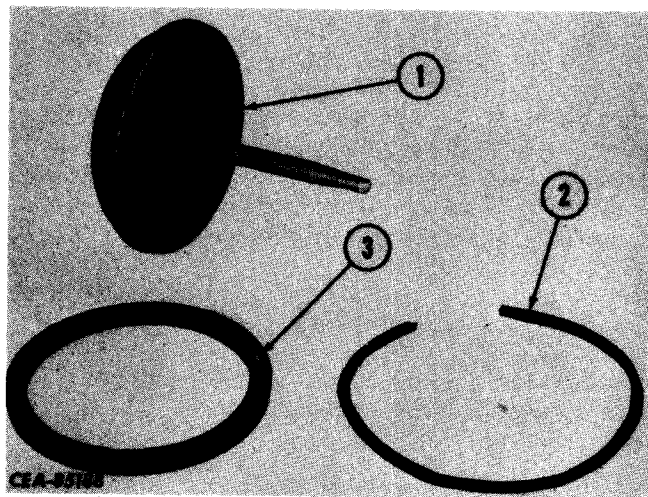

Figure 13-34
Remove air cylinder piston cup (3, Fig. 13-34) and wiper (2) from piston (1).
Lubricate air cylinder cup (3, Fig. 13-34) and wiper (2) with light oil and install them on the piston and rod assembly (1).